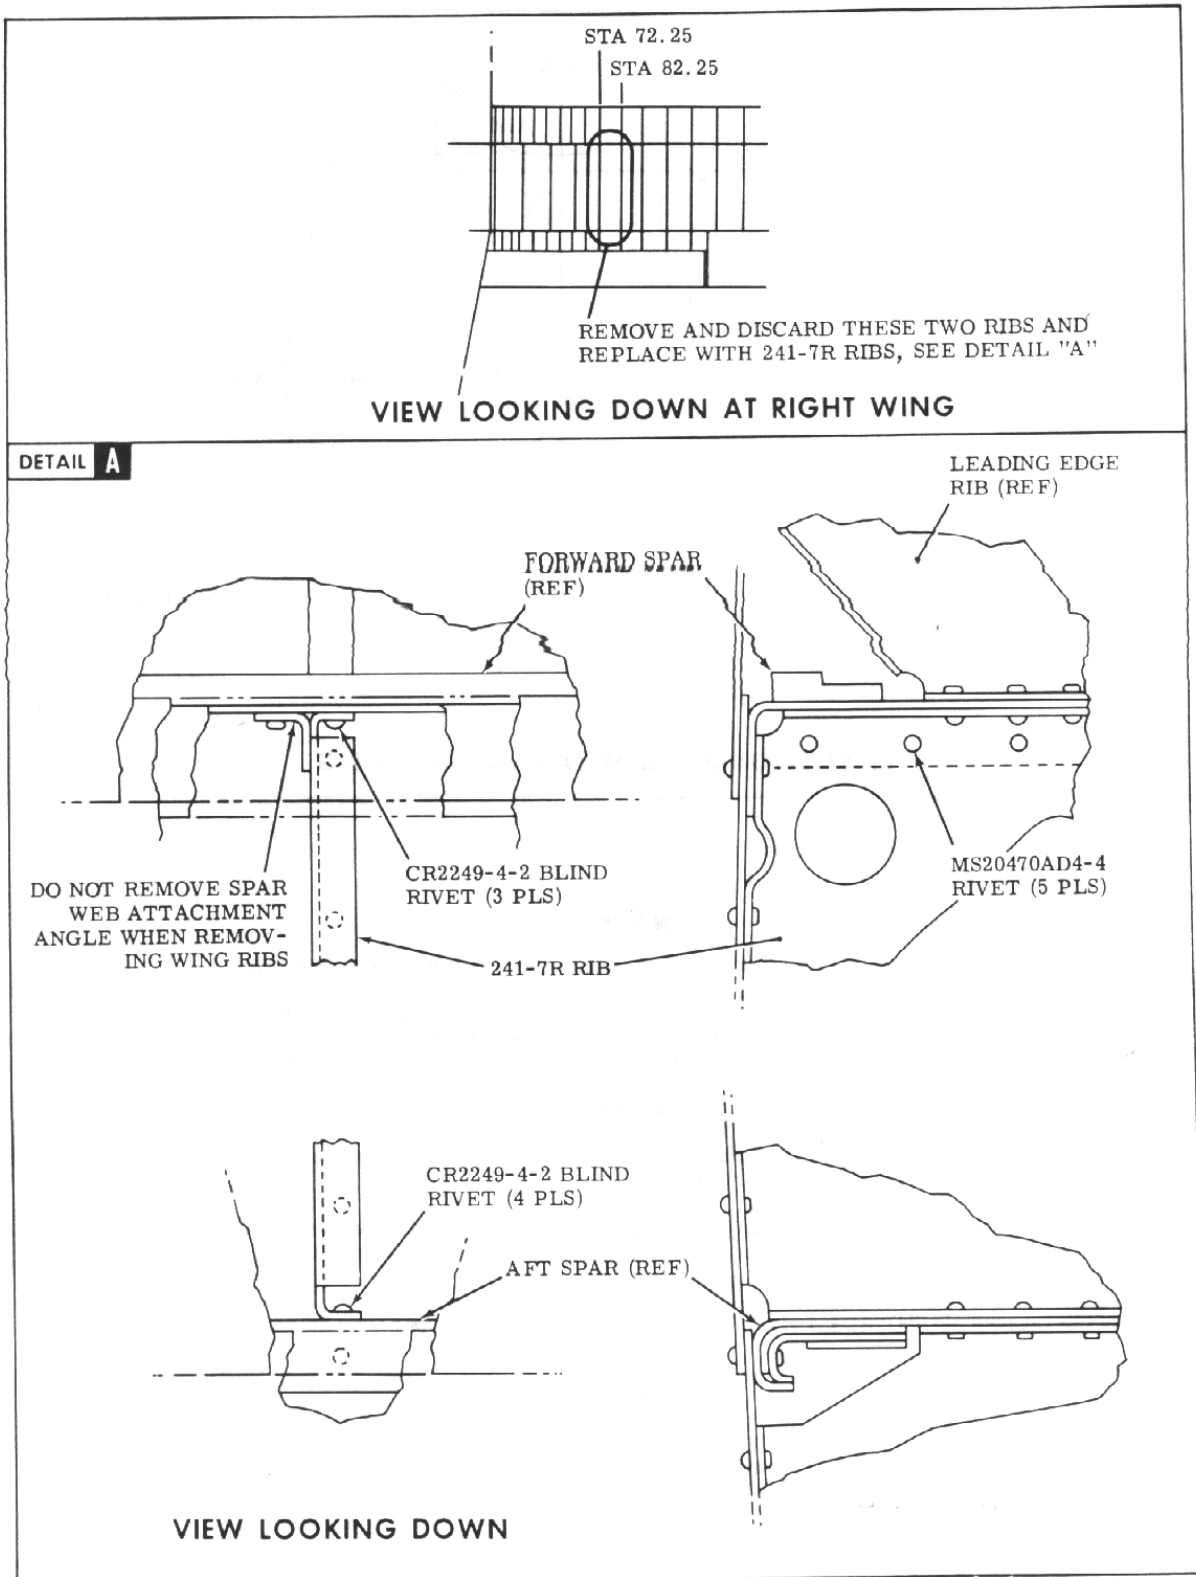

Figure 2.
2. Drill out rivets and remove upper center wing skin just outboard of right fuel tank (see Figure 2.).
3. Remove and discard existing wing ribs at WS 72.25 and WS 82.25 (see Figure 2.).
4. Install 241-7R rib (2 places) with MS20470AD4-4 rivets (lower flange of ribs) and CR2249-4-2 blind rivet (in forward and aft flanges of ribs) picking up existing holes in lower wing skin and in spars. Add interspaced MS20470AD4-4 rivet between existing rivets in lower skin and ribs (see Figures 2 and 3).
6. Add interspaced MS20470AD4-4 rivets between existing rivets in upper wing skin and new ribs (see Figures 2 and 3.).